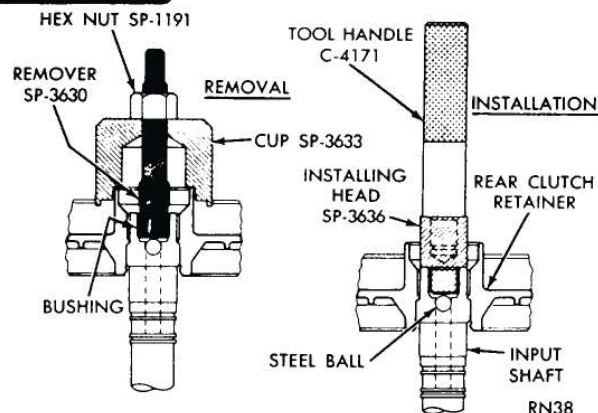

Fig. 31—Replacing Input Shaft Bushing (A-727)
(2) Assemble the remover Tool SP-3630, cup Tool SP-3633, and hex-nut Tool SP-1191 (Fig. 31).
(3) With cup held firmly against clutch piston retainer, thread remover into bushing as far as possible by hand.
(4) Using a wrench, screw remover into bushing 3 to 4 additional turns to firmly engage threads in the bushing.
(5) Turn hex nut down against cup to pull bushing from input shaft.
(6) Thoroughly clean input shaft to remove chips made by remover threads. Make certain small lubrica-
(7) Slide a new bushing on installing head Tool SP-3636 and start them in the bore of input shaft.
(8) Stand input shaft upright on a clean, smooth surface and install handle Tool C-4171 in the installing head (Fig. 31). Drive bushing into shaft until tool bottoms.
(9) Thoroughly clean input shaft and clutch piston retainer before assembly and installation.